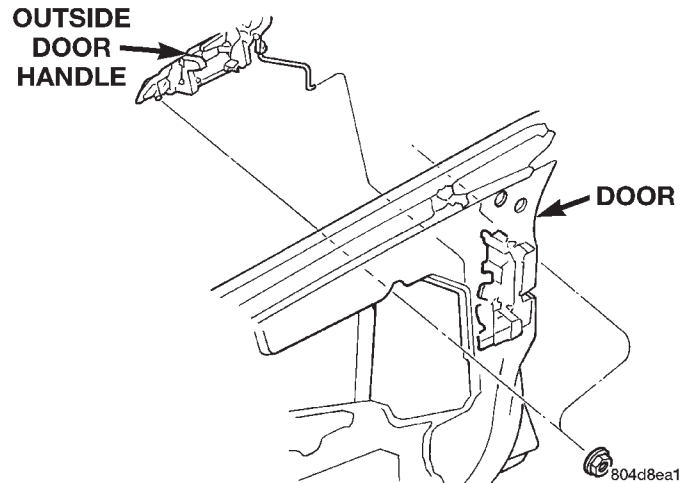

Fig. 35 Outside Door Handle
- (1) Remove door trim panel.
- (2) Raise door glass.
- (3) Remove watershield as necessary to gain access.
- (4) Disconnect latch rod at door latch.
- (5) Remove nuts holding door handle to outer door panel (Fig. 35).
- (6) Separate outside door handle from door.